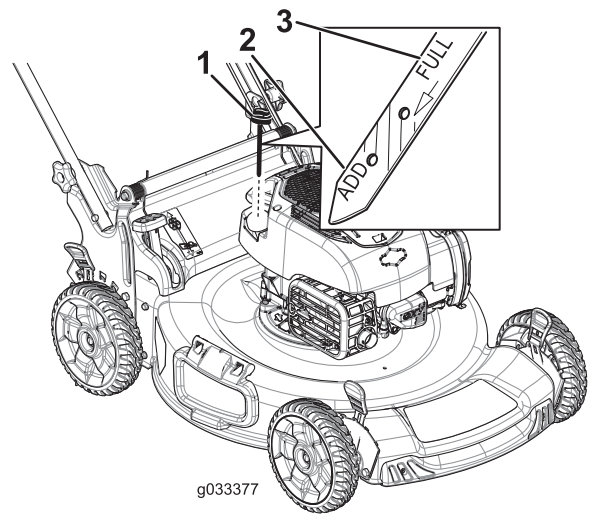

Figure 14
3. Remove the dipstick and check the oil level (Figure 14). If the oil level is below the **Add** mark on the dipstick, slowly pour oil into the oil fill tube to raise the oil level to the **Full** mark on the dipstick. **Do not overfill.**
2. Remove the dipstick, wipe it clean, and fully install the dipstick (Figure 14).